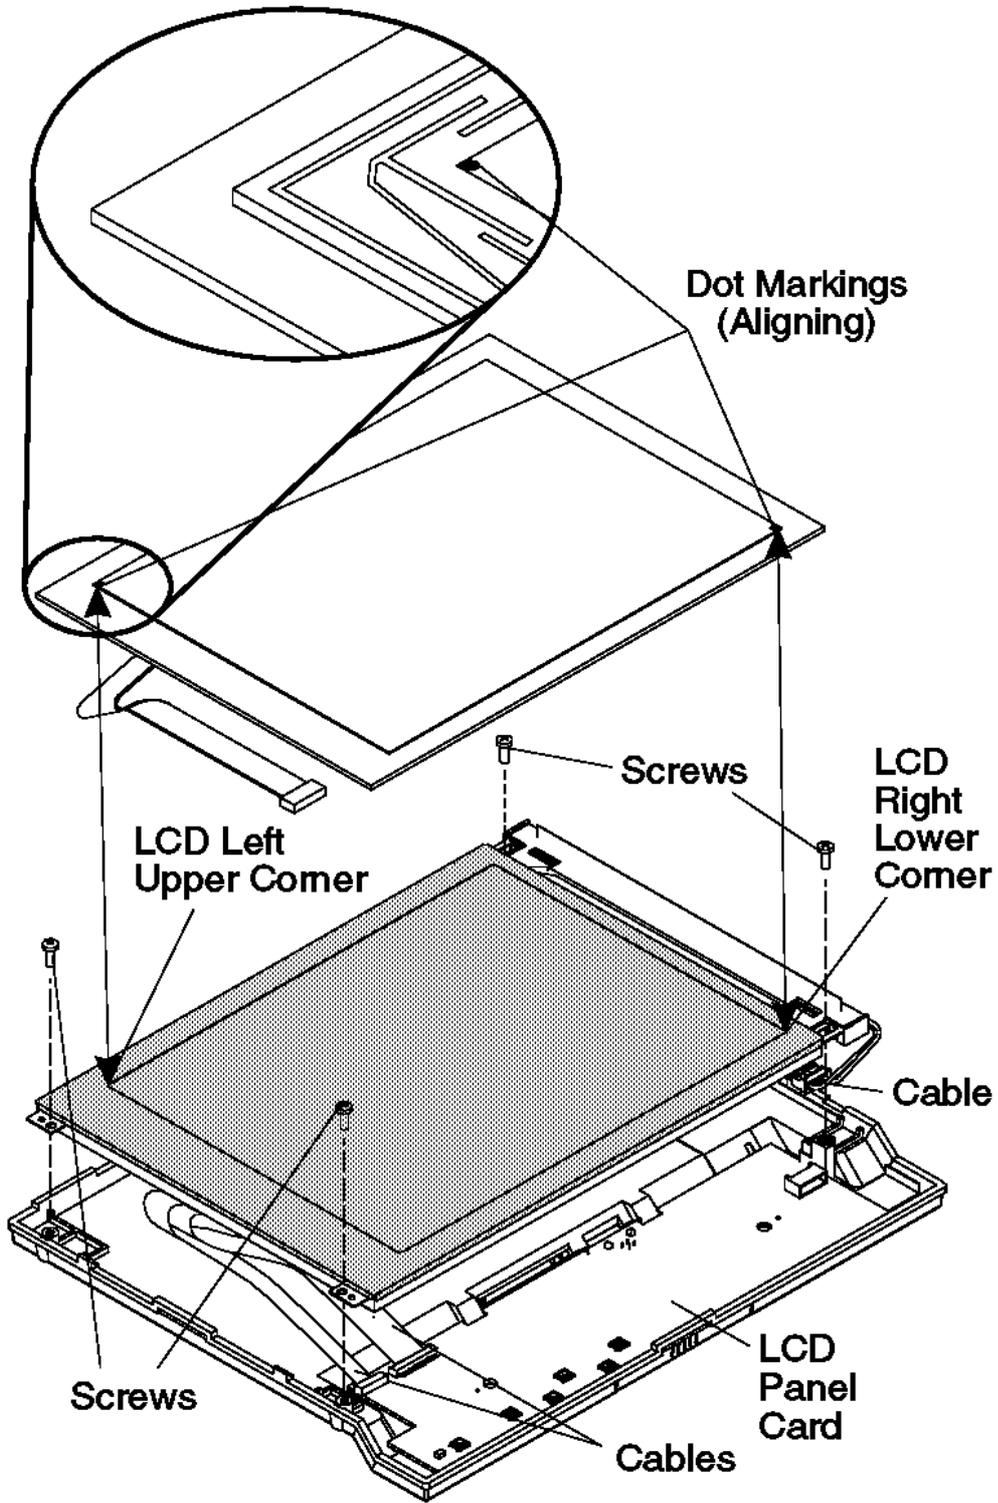

Figure 3-11. Removing the LCD module
2. Remove the four screws. See Figure 3-11.
- Make sure that the touch panel scan area is adjusted to the LCD active area. See Figure 3-11.
1. Remove the LCD module assembly. See Figure 3-11 in topic 3.6.2.